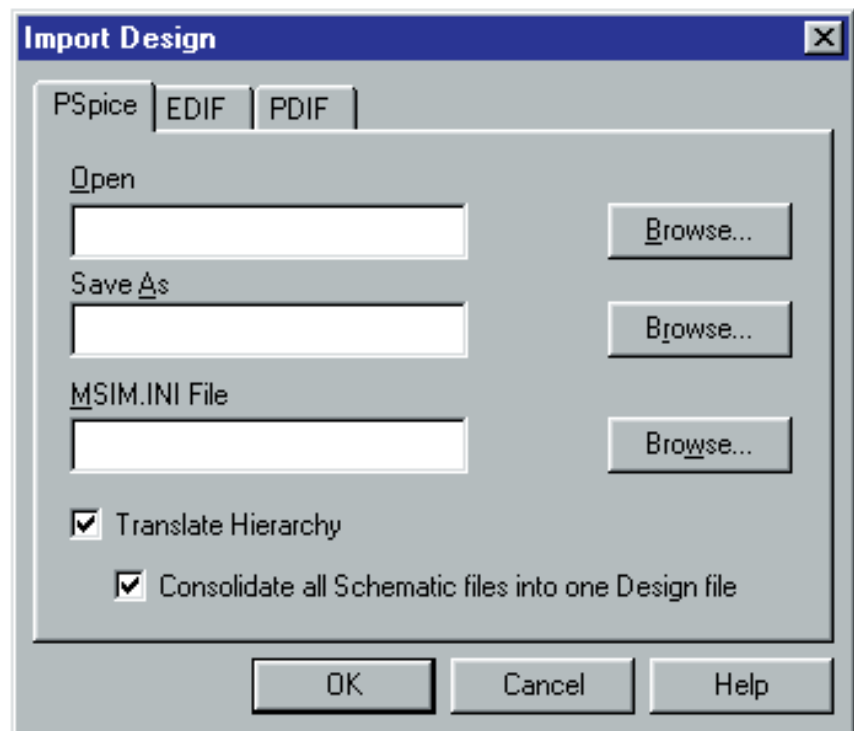

FIGURE A-9 Import Design Box
2. In order to open an existing schematic, click on the File menu and select Import Design. The Import Design dialog box shown in Figure A-9 will open.